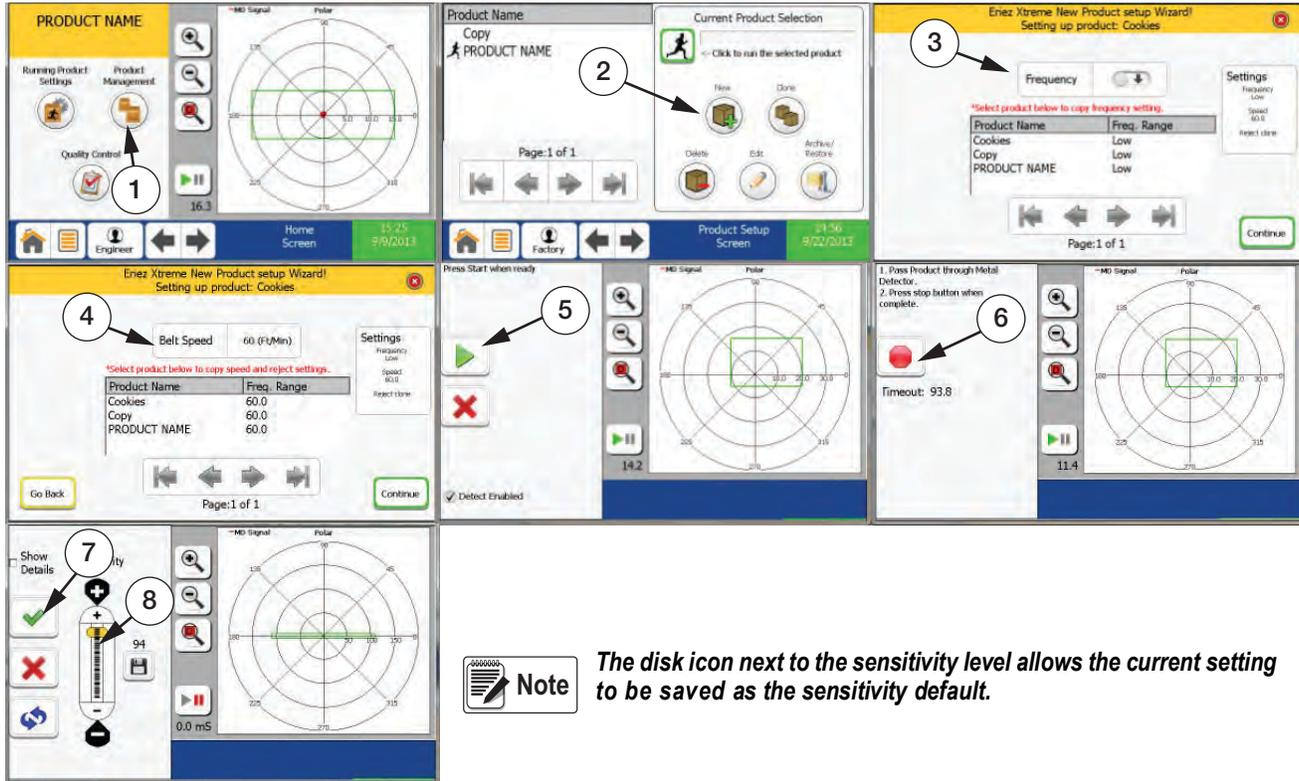

Figure 4-2. Product Wizard
7. If the settings are acceptable select the . If you wish to be more aggressive or conservative with the sensitivities, adjust using the sensitivity slider (Item 8 in Figure 4-2).
Note The sensitivity slider is set to 94 as the default (Item 8 in Figure 4-2). In most cases no adjustment is necessary to achieve desired sensitivity levels. The sensitivity slider increases to a maximum of 100 and a minimum of 0.